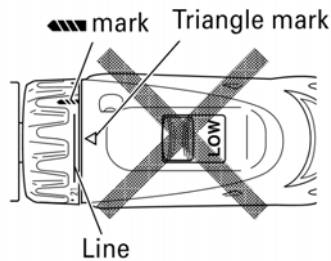

Fig. 10
- Do not use with the clutch dial set at the line between the number "21" and the drill mark "▲". Doing so may cause damage (See Fig. 10).